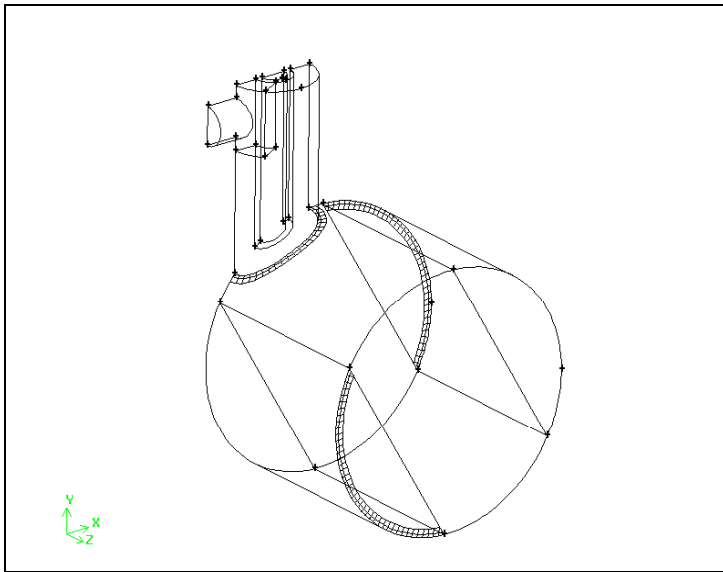

Figure 7-31: Edges on which to apply the boundary layers, showing the directions in which the boundary layers should point
3. Create boundary layers on the edges shown in Figure 7-31.
- c) Retain the **Rows** value (2).
- e) Select the edges shown in Figure 7-31 with boundary layers on them. The boundary layers should appear in the directions shown in Figure 7-31. If they do not, *Shift*-middle-click an edge to change the direction of the boundary layer.